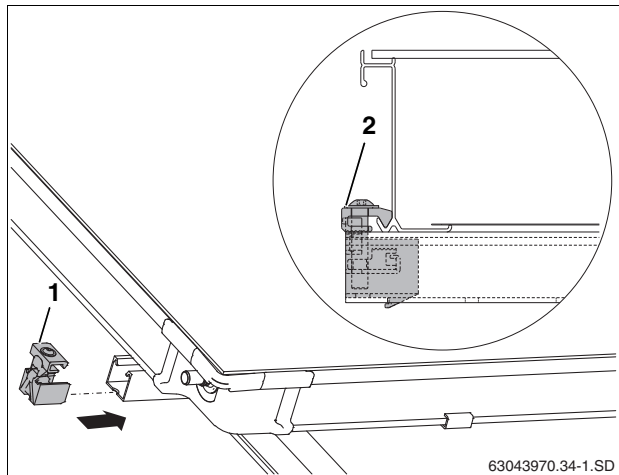

Fig. 52 Single-sided collector clamp (left)
- ▶ Push the single-sided collector clamp (Fig. 52, [1]) into the profile rails.
- ▶ Push collector clamp up against the collector frame and tighten using size 5 Allen wrench (Fig. 52, [2]).
The top (Fig. 52, [2]) of the collector clamp now grips the lower edge of the collector.